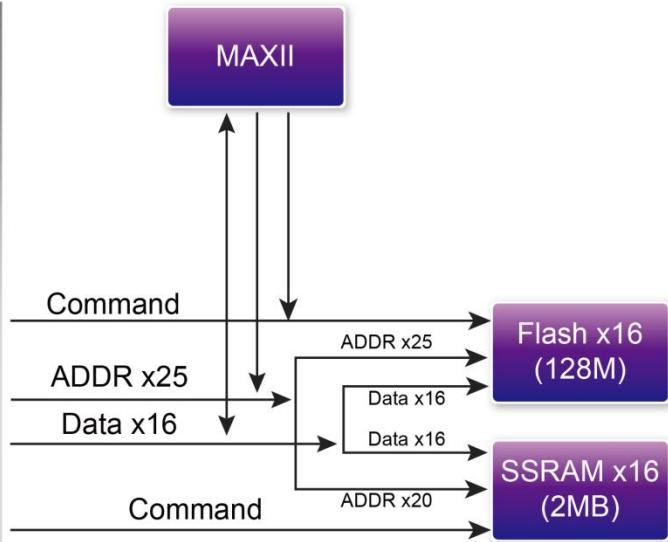

Figure 2-12 Connection between the Flash, Max and Stratix V GX FPGA
The flash has a 16-bit data bus and allow for FPP x16 configuration. This device is part of the shared flash and MAX (FM) bus, which connects to the flash memory and MAX II CPLD (EPM2210) System Controller. The SSRAM also has a 16-bit data bus and share address and data bus with the flash. Figure 2-12 shows the connections between the Flash, SSRAM, MAX and Stratix V GX FPGA.